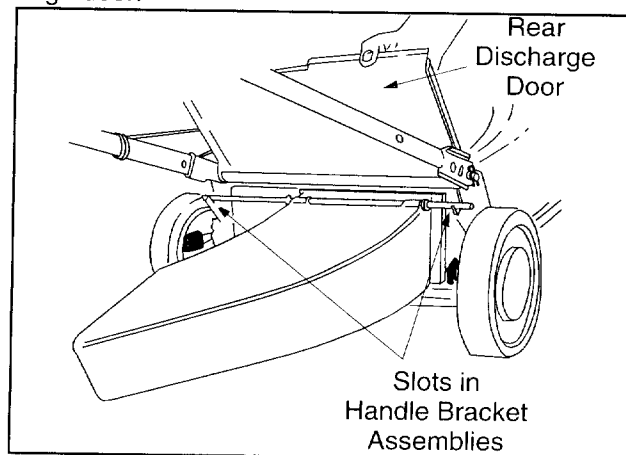

FIGURE 14
- Place the ends of the rod into the slots in the handle bracket assemblies. See Figure 14.